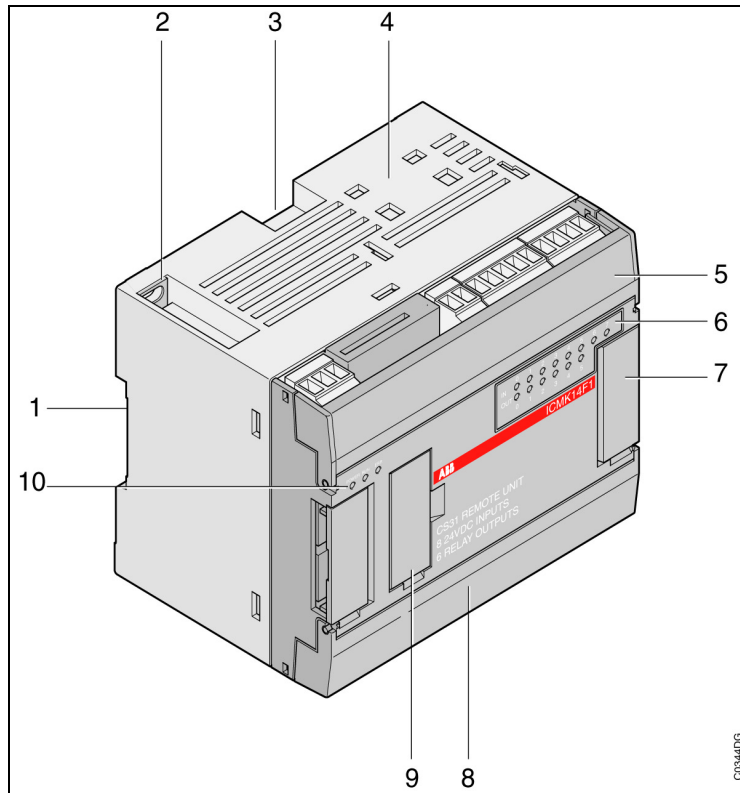

Figure 3-3 : The front of the unit
4.1. The front (see Figure 3-3)